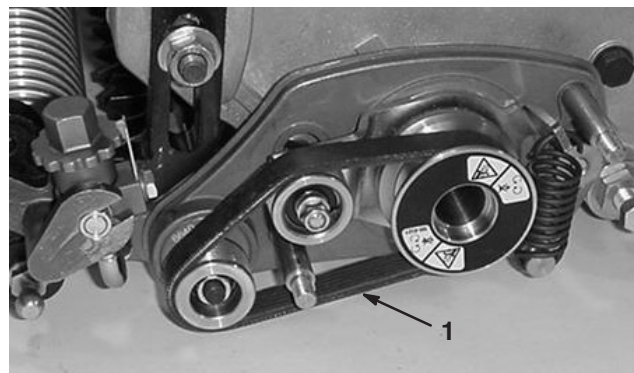

Figure 18
34. Insert belt onto driver pulley, idler pulley and driven pulley routing as shown in figure 18. Make sure belt is riding correctly in the grooves.